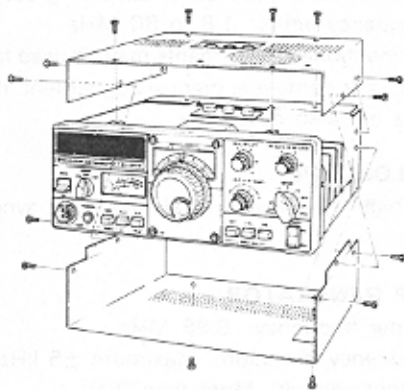

Fig. 14 Case disassembly
- Remove the upper and lower cases as shown in figure 14, below.